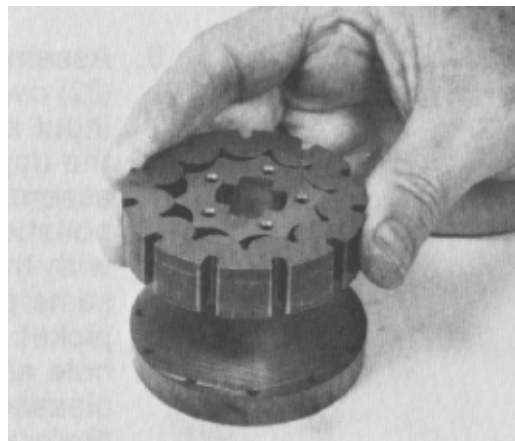

Figure 91
11. Put the drive plate on a clean lint-free surface with the eleven tapped holes facing up. Put the rotor set on top of the drive plate with the five pin holes facing up. Rotate the stator until the eleven hex socket head screw relief slots are aligned with the tapped holes in the drive plate (Fig. 91).